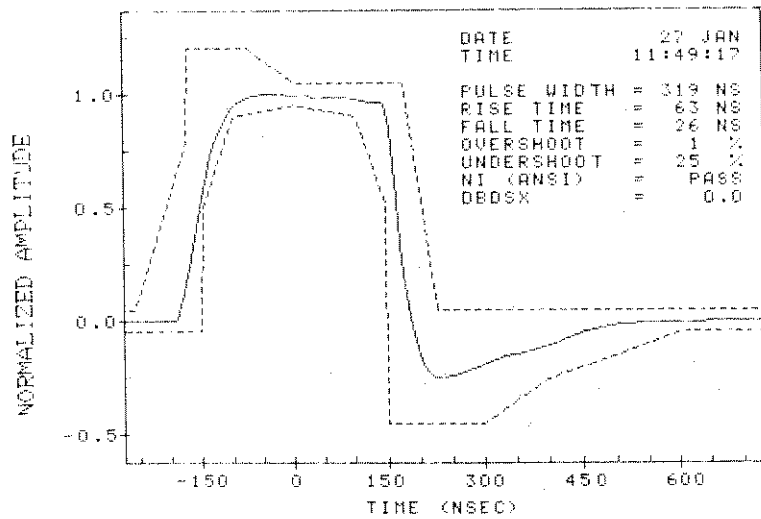

Figure 4-7
mask is a graphical representation of the restrictions which are placed on the pulse shape. Figure 4-7 depicts a sample T-BERD 211 pulse mask and pulse waveform. The pulse shape results are also identified along with the pulse mask specifications.
You can use the T-BERD 211 to determine if a DS1 pulse is within specification by comparing the pulse shape to a pulse mask like the one shown in Figure 4-7. The T-BERD 211 is equipped with two such masks, both of which are selectable via the AUX PLS MASK function:
2.	<p>Set the RESULTS II Category switch to the SIGNAL category and scroll through the following pulse shape measurements and compare the results with the table in Figure 4-7.</p> <ul style="list-style-type: none"> (a) 45-PULSE WIDTH (b) 46-RISE TIME (c) 47-FALL TIME (c) 48-UNDERSHOOT (d) 49-OVERSHOOT